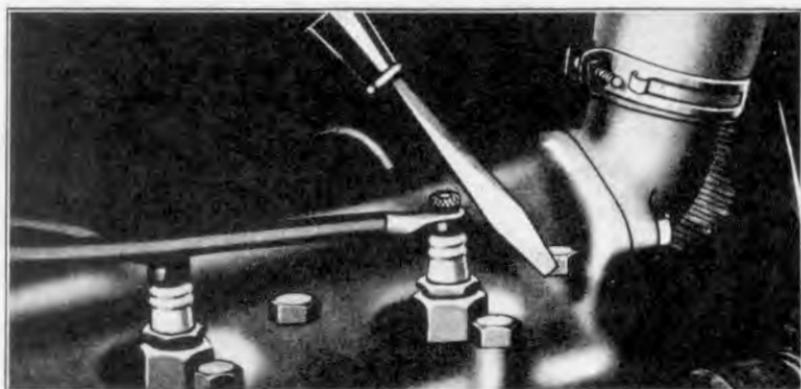

Fig. 497
- 989 If the engine turns over freely but does not start when the starting switch is depressed, place a screw driver with a wooden handle on the cylinder head, holding it about  $\frac{1}{8}$ " away from the top of the plug, as shown in Fig. 497 while some one turns the engine over rapidly with either the starter or hand crank. If a good live spark occurs at all of the plugs, the trouble lies in the fuel system and can be remedied as explained in Pars. 1014 to 1018. If a spark does not occur the trouble lies in the electrical system. On cars equipped with a starter, this test should be tried with the ignition key turned on both battery and magneto. If the car will run on battery but not on magneto, inspect the magneto contact post as described in Par. 991. If magneto post is O. K., the trouble is due either to excessive end play in the crankshaft, weak magnets or a ground or short in the magneto coil assembly. See Pars. 992 to 999.